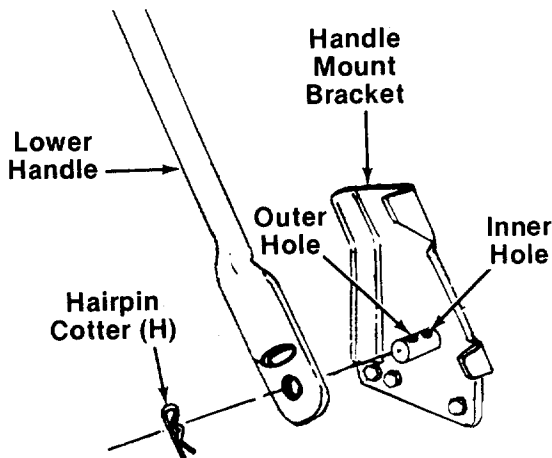

FIGURE 2.
- C (2) Lock Washers 5/16" I.D.
- D (2) Hex Nuts 5/16-18 Thread
- E (1) Plastic Cap
- F (2) Phillips Head Screws
- G (2) Cable Ties
- H (2) Hairpin Cotter
- I (2) Front Hub Caps (Optional)
- J (2) Plastic Plugs (Not Shown)
3. Attach the lower handle by placing the bottom holes in the lower handle over the weld pins on the handle mount brackets. Make certain the instruction label on the lower handle can be read from the operating position. Secure with hairpin cotters (H) in inner holes on weld pins. See figure 2.